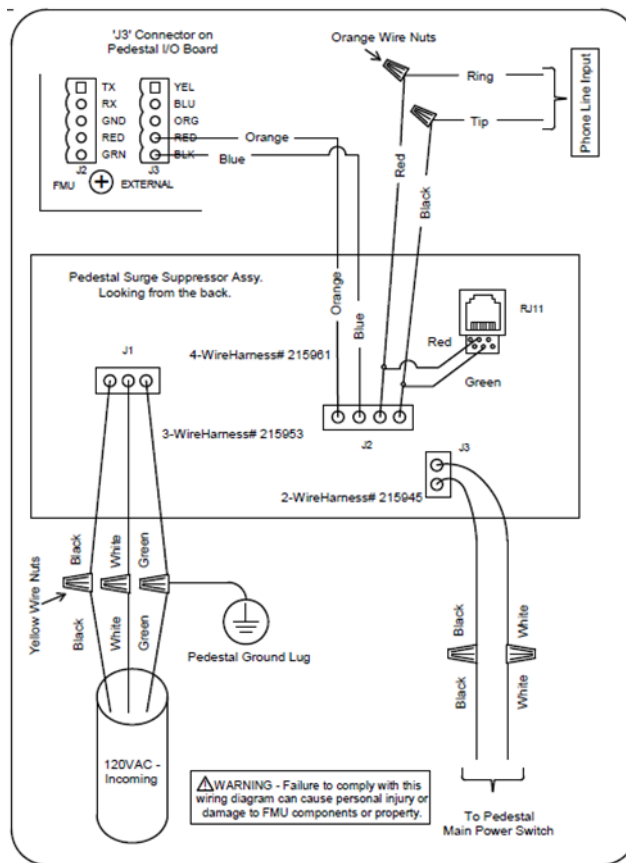

Figure 10 Surge Protector Assembly Wiring Diagram
1. (FMPlus) Connect the two incoming leads of the phone/communications cable to the red and black wires of the 4-wire harness for the Surge Protection panel (see Figure 10).